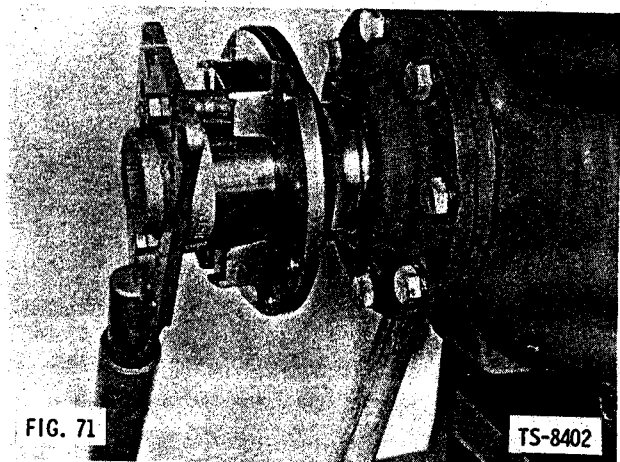
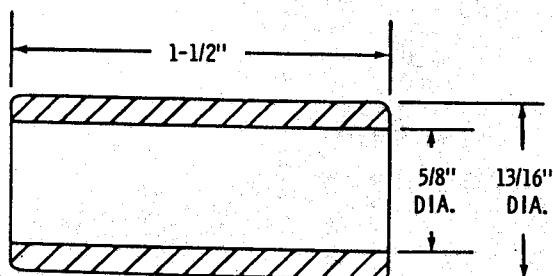

FIG. 71
FIG. 72
7. Remove cotter pin securing pinion shaft nut to pinion shaft. Position socket on pinion shaft nut, and then install flange retainer tool on flange, inserting two spacers between tool and flange (Fig. 71). Spacer dimensions are given in Fig. 72.